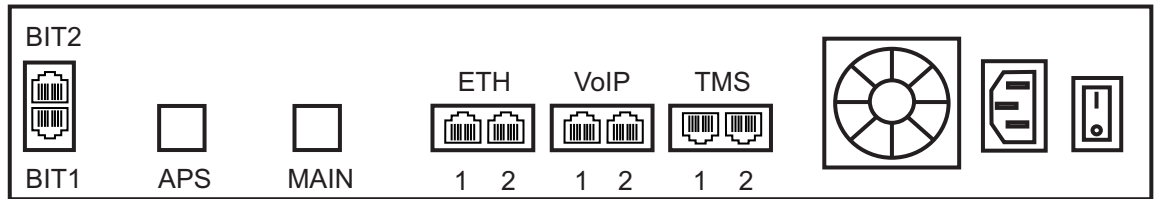

Figure 2.7 Optical Interface to the PSTN
A TMG3200, with one main and one backup OC3 or STM-1 port enables connection to OC3/STM-1 lines. See figure 2.7 on page 16. Refer to table 2.2 on page 16 for a listing of optical interfaces. The default OC3/STM-1 connection is SMF, intermediate reach, (SFP-OC3-IR1) 1312 NM with LC type connectors.
1. Connect a fiber optic cable between the Main port and OC3/STM-1 line, as shown in figure 2.7 on page 16.